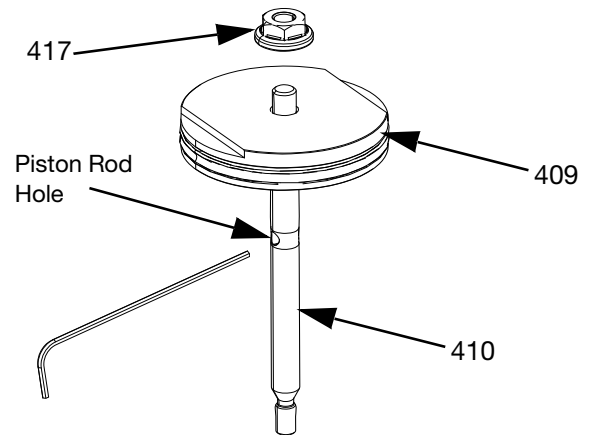

FIG. 19
6. For valves with ball-seat tip assemblies (FIG. 19):
- a. Place an Allen key in the through hole in the piston rod (410) and unthread the nut (417) using a 7 mm socket or wrench.